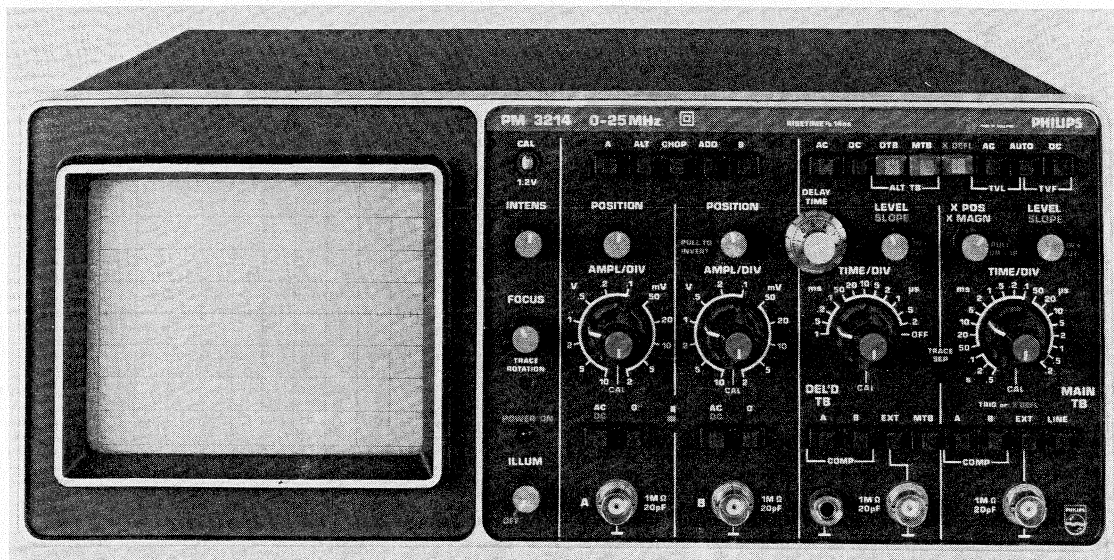

Fig. 2.2. Front view of the oscilloscope showing controls and sockets.
2.2 CONTROLS AND SOCKETS (Refer to Fig. 2.2)